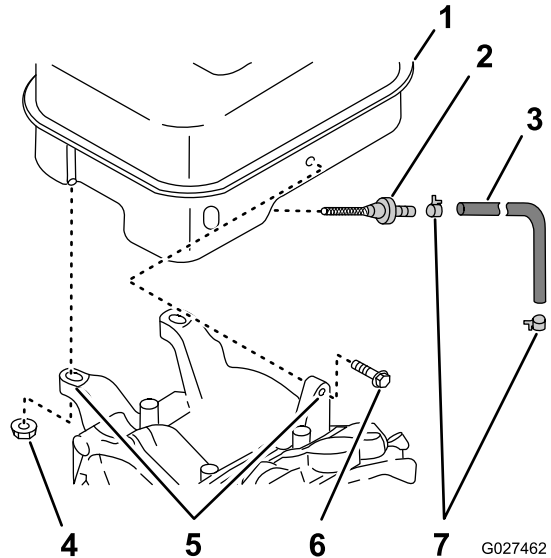
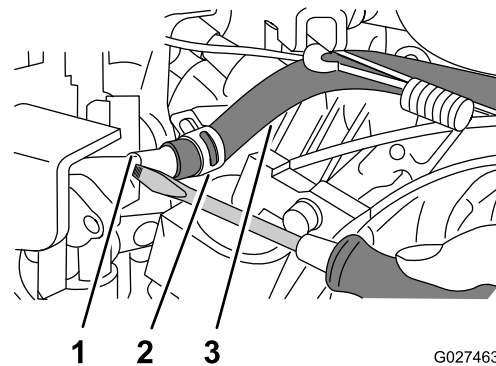
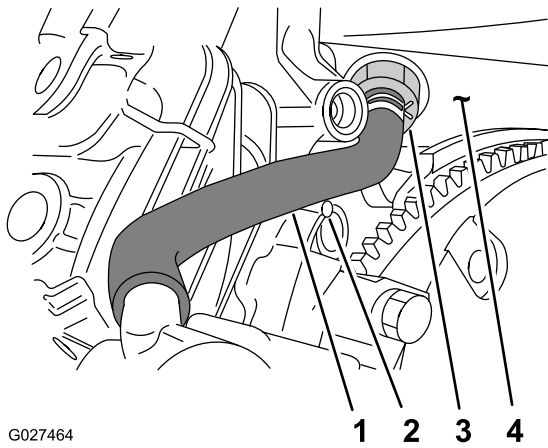

Figure 71
Figure 72
Figure 73
5. Remove the 2 bolts 6 x 25 mm and 2 nuts 8 mm that secure the fuel tank to the tank supports (Figure 71).
6. Loosen the hose clamp and disconnect fuel hose from the fitting on the carburetor (Figure 72).
- Remove the fuel tank from the crankcase of the engine (Figure 71 and Figure 73).
- Secure the hose to the carburetor fitting with the clamp (Figure 72).
- Assemble the tank to the tank supports on the engine with the 2 bolts 6 x 25 mm and 2 nuts 8 mm (Figure 71).
- Loosen the hose clamp and disconnect the fuel hose from the fitting at the fuel strainer (Figure 71).
- Rotate the fuel strainer counterclockwise and remove it from the fuel tank (Figure 71).
- Thread the fuel strainer into the fuel tank (Figure 71).
- Align the fuel hose that you removed in step 1 over the fitting on the fuel strainer (Figure 71 and Figure 73).
- Secure the hose to the strainer fitting with the clamp (Figure 71 and Figure 73).
- Align the fuel tank to the tank supports on the engine (Figure 71).
- Align the fuel hose that you removed in step 6 of Removing the Fuel Tank \(page 57\) to the fitting on the carburetor (Figure 72 and Figure 73).